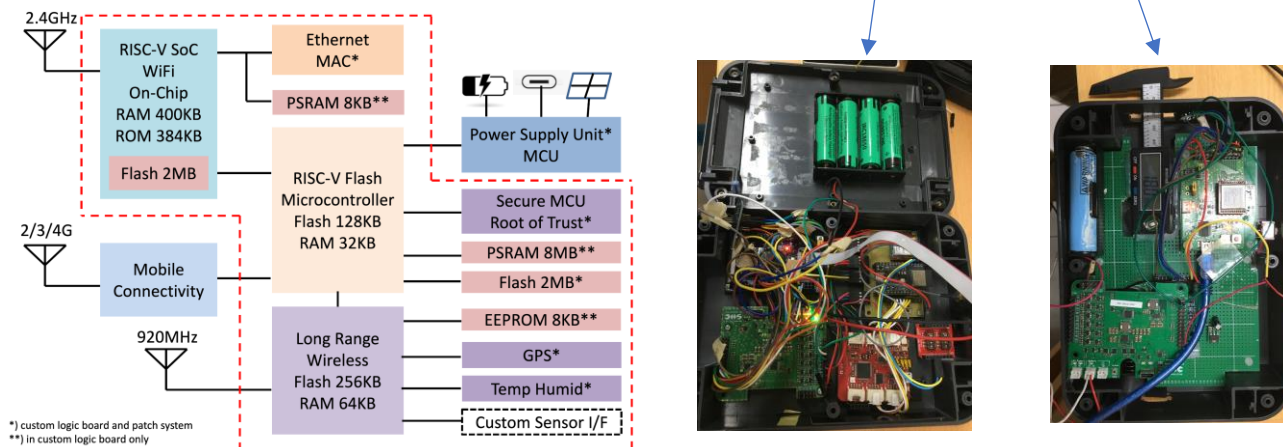
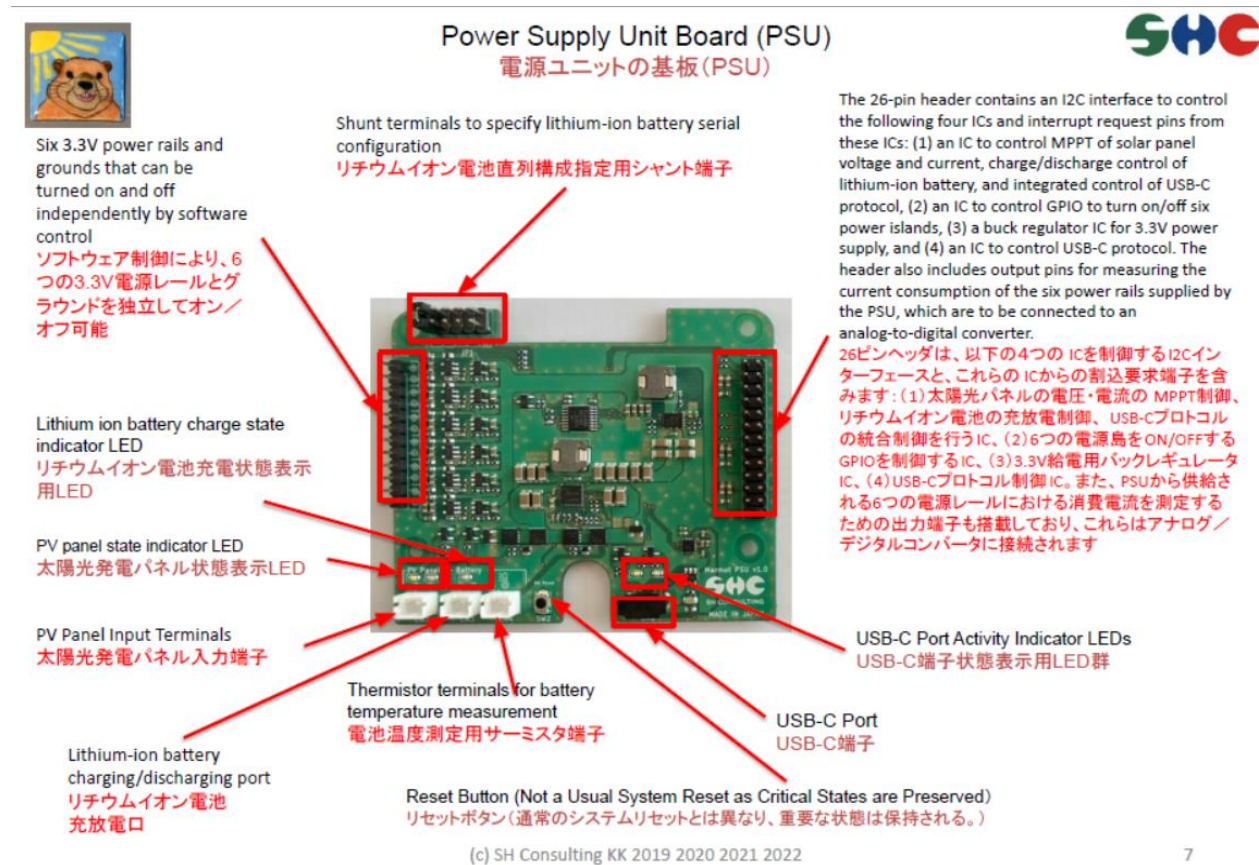

Figure 4: Marmot System Diagram and Patch Boards used for Software Development
Figure 5: Power Supply Unit detailed explanation
Marmot Wireless IoT system is being developed. This is an RTOS IoT system which provides: (1) Fast Response Time, (2) Low Maintenance, (3) High Reliability, (4) High Security. Figure 4 shows a Marmot Emblem. Marmots are relatively large ground squirrels in the genus Marmota, with 15 species living in Asia, Europe, and North America. The handmade emblem was created to mark the boxes. Figure 5 shows Marmot systems.